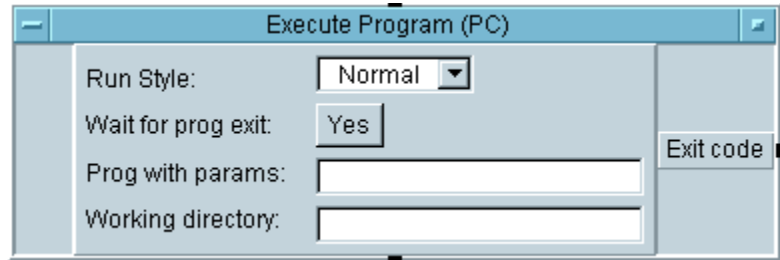

**Figure 4-27. The Execute Program (PC) Object**
You can use The `Execute Program (PC)` object to perform a task you would normally do from the Operating System command line. Figure 4-27 shows an example of the `Execute Program (PC)` object. You can use `Execute Program (PC)` to run any executable file including: